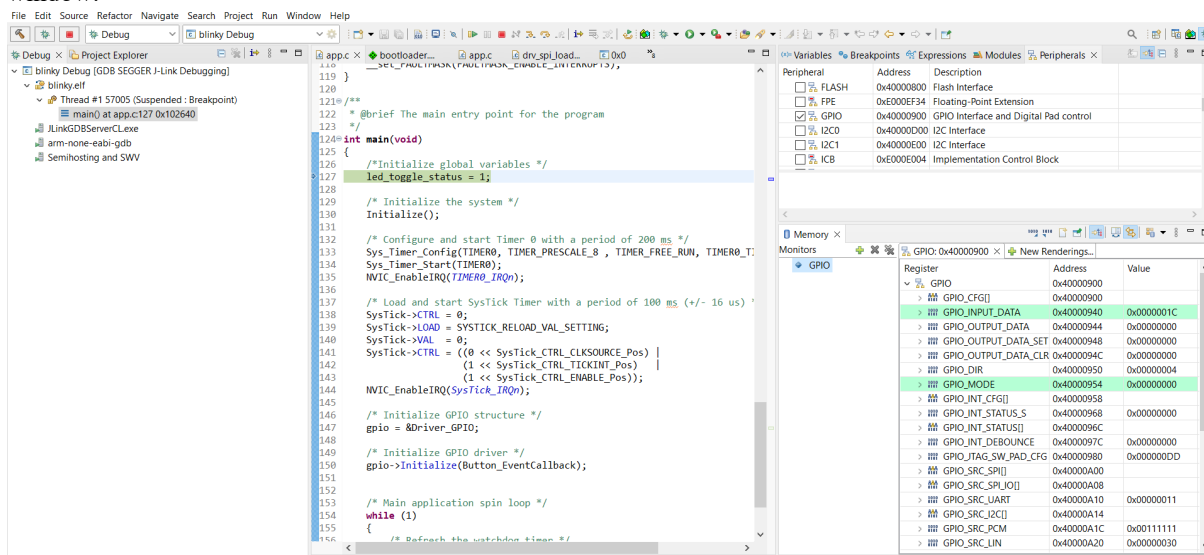

Figure 15. Peripheral Registers View Perspective in Debug Session After Setting the SVD Path
- In the Peripherals window, select **GPIO**. Open the **Memory** window to monitor the RSL15 peripheral. Read only registers are highlighted in green. It is a good idea to drag your Memory window and place it side-by-side with your source code view (see the figure "Peripheral Registers View Perspective in Debug Session After Setting the SVD Path" (Figure 15)) to prevent the console from switching focus away from the Memory window.